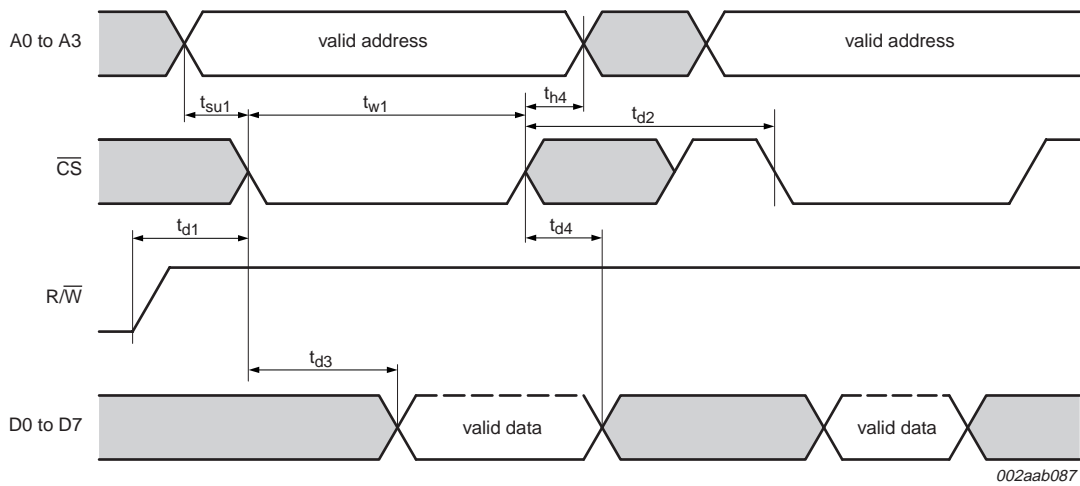

Fig 5. General read timing
(2)  $\overline{CS}$  timing during a read cycle. See Figure 5.